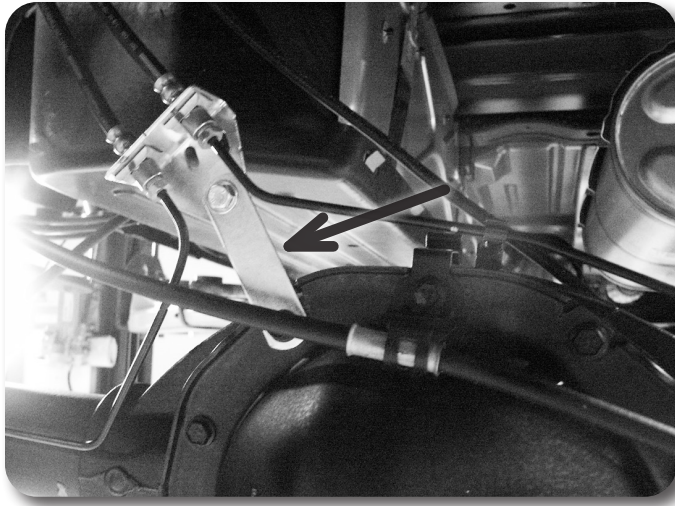

Figure 41
- Install the provided straight 3" brake line bracket to the top of the differential using factory mounting hole and bolt which must be removed from the factory brake line bracket. Attach the factory brake line bracket to the relocation bracket with a 5/16" x 1" bolt, nut and washers. Torque the factory and 5/16" bolt to 20 ft-lbs **Figure 41**.